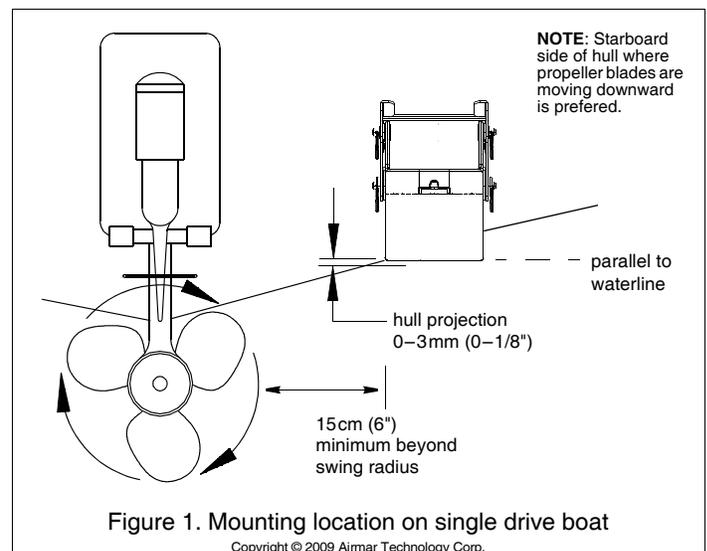

Figure 1. Mounting location on single drive boat
- Mounting on the side of the transom where the propeller blades are moving downward is preferred (see Figure 1).
- **Single drive**—Mount a minimum of 15cm (6") beyond the swing radius of the propeller (see Figure 1).
1. At the selected mounting location, position the assembly so the transducer projects 3mm (1/8") below the bottom edge of the transom (see Figure 1). Be sure any shim(s) is in place. (You may want to tape the shim(s) to the bracket temporarily.) With the transducer in the operational position, mark the bottom corners of the bracket.
5. Using the vertical adjustment space in the bracket slots, slide the assembly up or down until the bottom inside corner of the transducer projections 0–3mm (0–1/8") below the bottom of the hull (see Figure 1). When you are satisfied with the position of the transducer, tighten the four bracket screws. For clear access to the screws, remove the transducer assembly from the bracket (see Figure 4). *When reattaching, be sure to include the spacer.*
- B. Move the transducer deeper into the water in increments of 3mm (1/8") (see Figure 1).